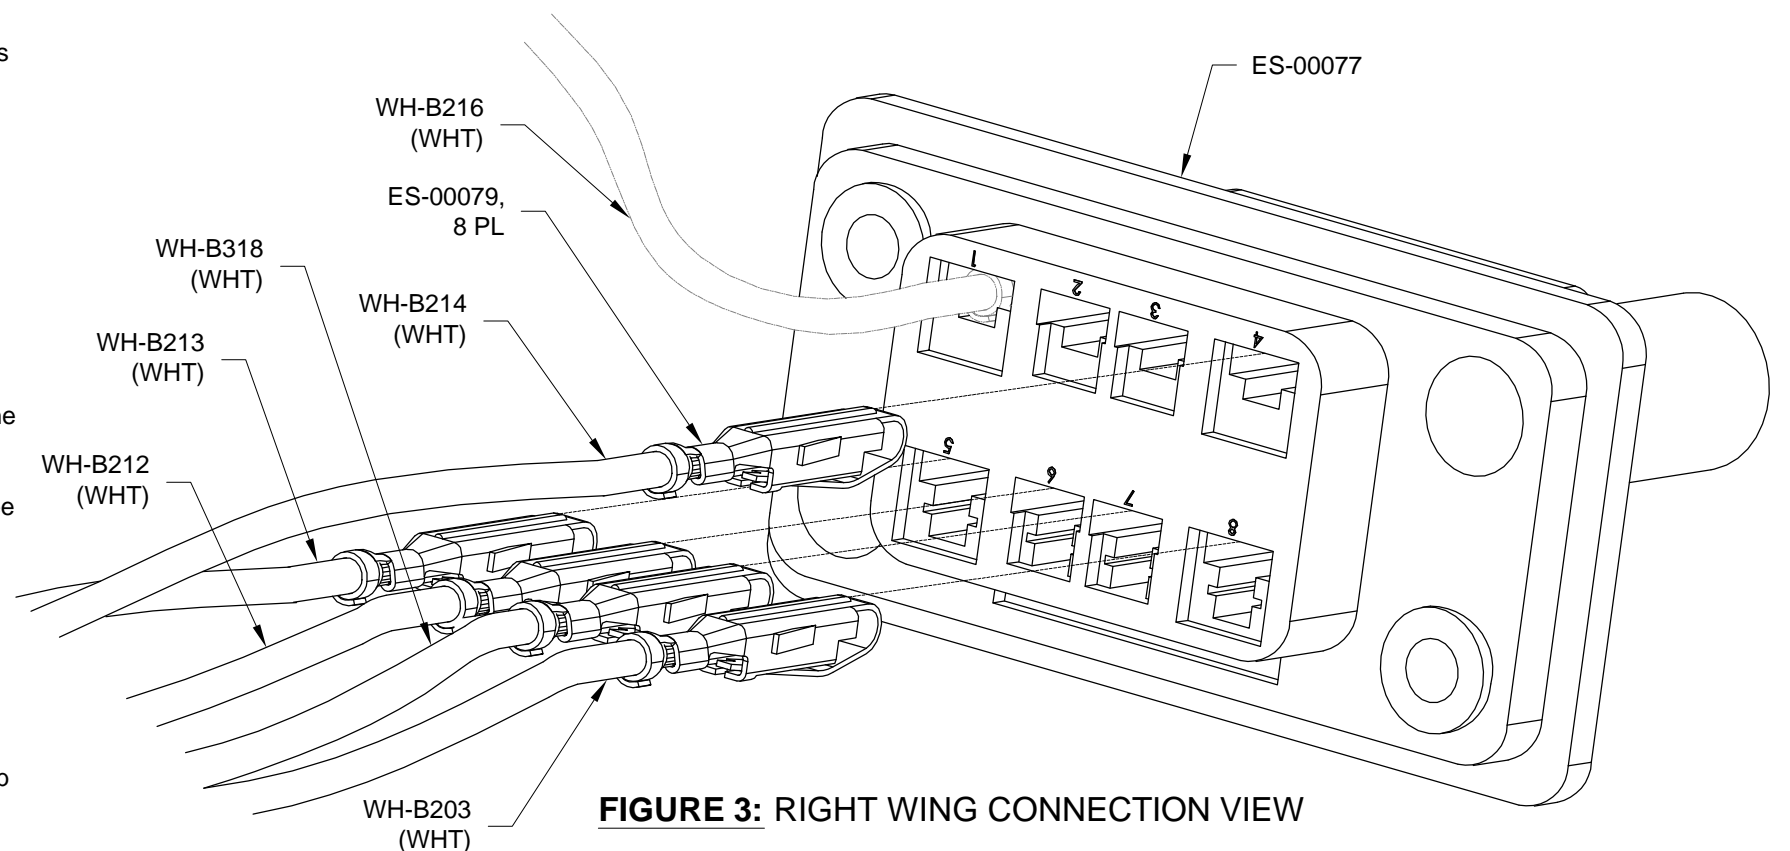

FIGURE 3: RIGHT WING CONNECTION VIEW
Step 8: Attach the crimped wires called out in Figure 3 to the ES-00077 Floating 8 Pos Connector Female. See also Page 40-06, Figure 2.